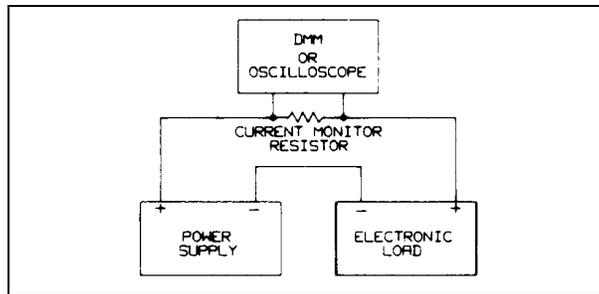

Figure 2-1. Test Setup A
Table 2-1 lists the test equipment required to perform the tests in this chapter. Test setups for the tests are shown in Figures 2-1 through 2-3. Make sure the sense switch on the rear of the module is set to the LCL position since local sensing is used in all of the test setups. Use adequate wire gauge when making connections (see Chapter 3 in the Operating Manual).
- a. Connect the Electronic Load, power supply (Agilent 6031A or equivalent), DMM, and current monitor resistor (0.001 ohm for 60504B; 0.010 ohm for 60507B) as shown in Figure 2-1.
a. Connect the Electronic Load, power supply (Agilent 6032A, 6030A or equivalent), and the current monitor resistor (0.010 ohm for 60504B; 0.100 ohm for 60507B) as shown in Figure 2-1. Use the DMM to measure the voltage across the monitor resistor and across the module's input terminals.